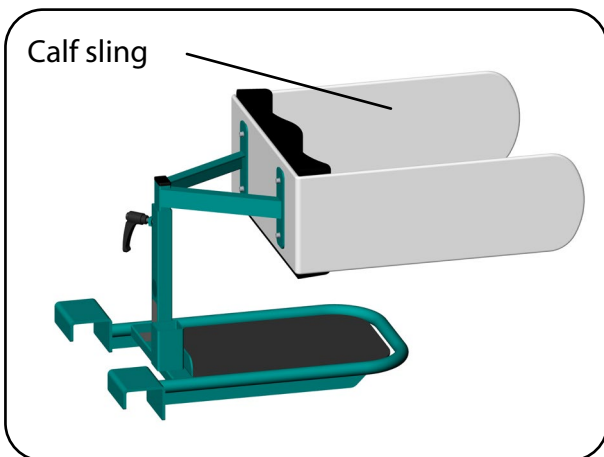

Fig. 6.4.02 – Attaching the aks calf sling
2. Position the aks calf sling between the shin support and shin padding and secure the aks calf sling using the four lugs and screws (Fig. 6.4.02).